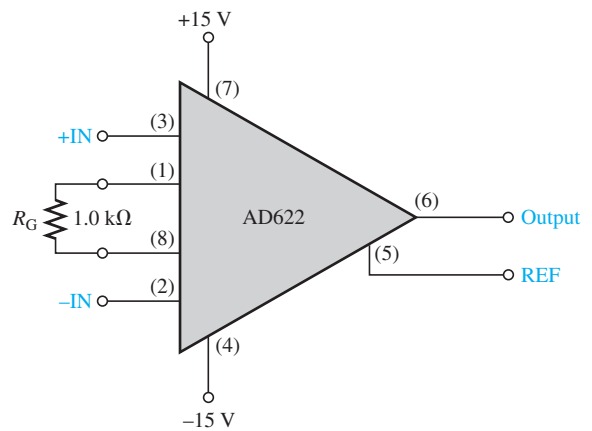

FIGURE 12-36
5. What is the voltage gain of the AD622 instrumentation amplifier in Figure 12-36?
6. Determine the approximate bandwidth of the amplifier in Figure 12-36 if the voltage gain is set to 10. Use the graph in Figure 12-6.
7. Specify what you must do to change the gain of the amplifier in Figure 12-36 to approximately 24.
8. Determine the value of R_G in Figure 12-36 for a voltage gain of 20.